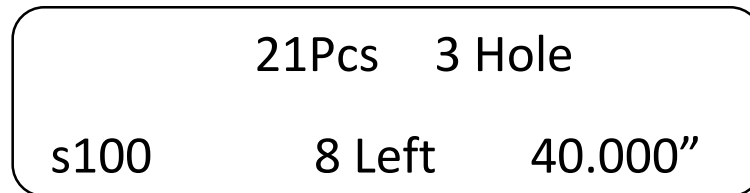

Figure 6-4. Status Display – Hole Count
**Note: Figure 6-4 is for the MP301HCL (a single batch unit), which means that there is no Job Number listed on the first line. Multiple batch units will include the Job Number on the Status Screen.**